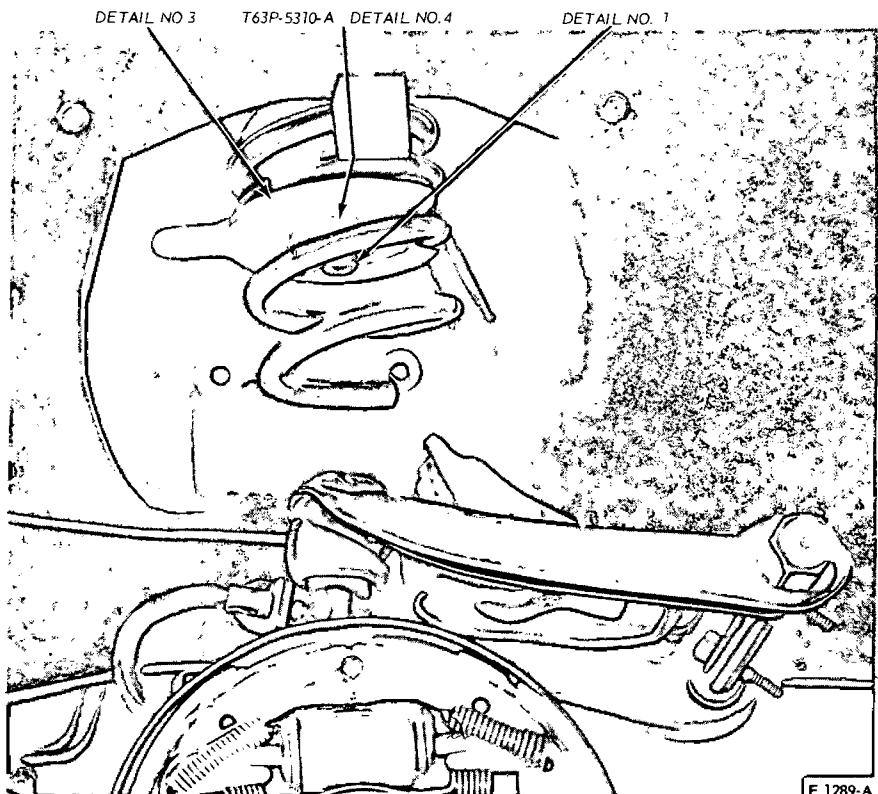

FIG. 10—Compressing Spring—Lower View —Comet, Falcon, and Fairlane
6. Remove 2 upper arm to spring tower attaching nuts and swing the upper arm outboard from the spring tower (Fig. 10).
4. Install the spring compressor Tool, see Fig. 8, and compress the spring (Fig. 10).